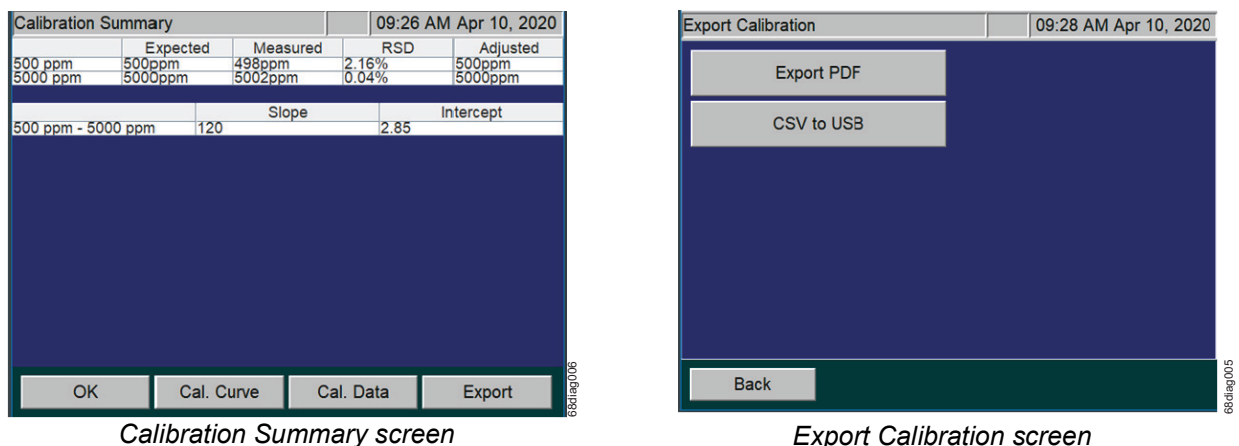

Figure 50: Export Calibration screens
6. To export the calibration summary, select the **Export** button to open the *Export Calibration* screen (see Figure 50).